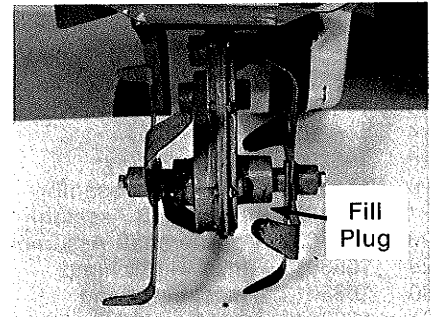

FIGURE 20
3. Chain Case. The chain case requires #90 automotive differential lubrication, fill to plug height as tiller is in tilling position. (See Fig. 20).